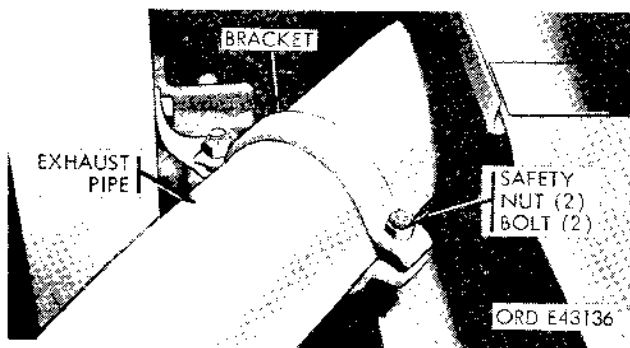

Figure 2-121. Removing center exhaust pipe rear bracket.
(4) Remove the two nuts and bolts securing the rear center pipe bracket. Remove the center pipe (fig. 2-121).